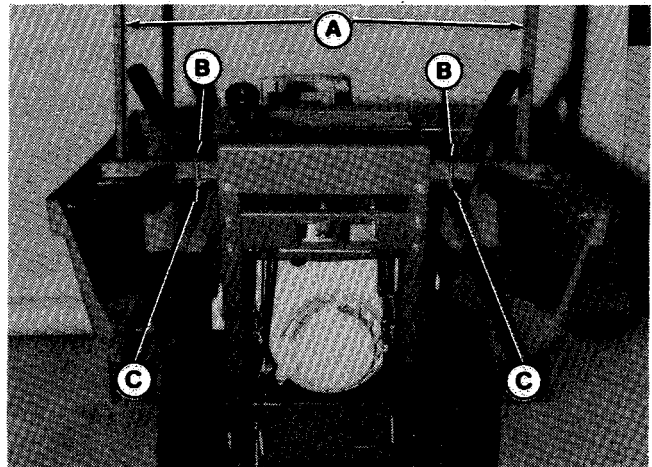

Figure 5
6. Install the panel support brackets as shown in figure 5. To install, slide the brackets onto the handles as far as they will go and then install the 1-3/4" long screws (B) and 5/16" nuts (C). (Figure 5 also shows the lower cover installed).